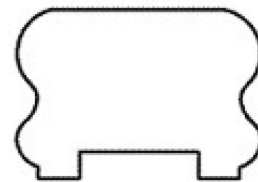

Figure 5
- 19 What component section is shown in Figure 5?